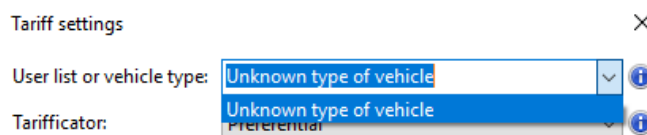

Figure 6.5.7.2
- The tariffs for vehicle types cannot be removed. In the settings of the tariff for vehicle type, this type of vehicle cannot be changed to another one or replaced with lists (Figure 6.5.7.2).